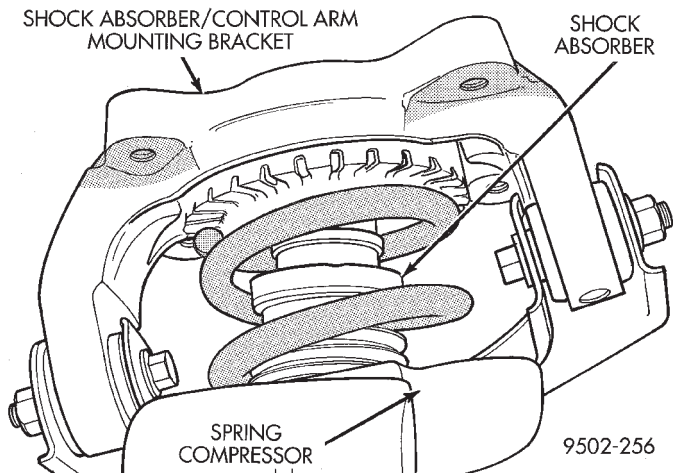

Fig. 89 Shock Absorber/Upper Control Arm Mounting Bracket
(6) Remove the shock absorber/upper control arm mounting bracket from the shock absorber assembly (Fig. 89).
(9) Install the shock absorber/upper control arm mounting bracket (Fig. 89) on the shock absorber assembly.